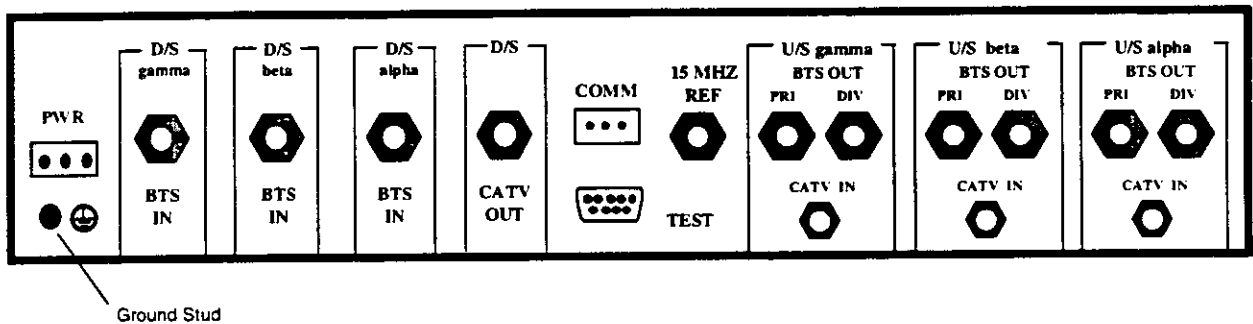

Figure 2-9. HIC Rear Panel
- e. Loosen and remove the wing nut and washers from the HIC ground stud (see Figure 2-9).